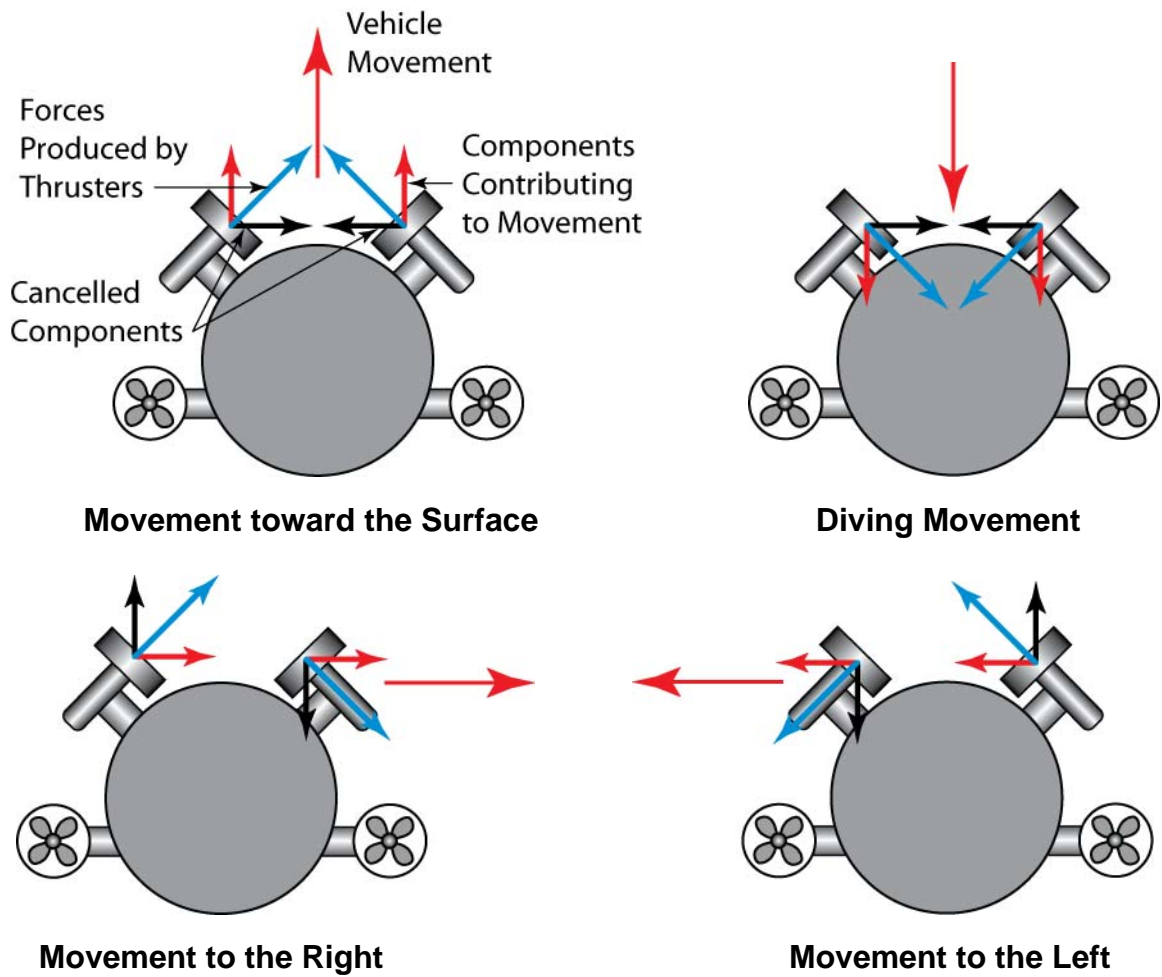

Figure 13: Four Vehicle Movements from the Vectored Thrusters Illustrated
- The vectored thruster arrangement generates many vehicle movements. The stern (rear) view in Figure 13 illustrates four motions when the two thrusters produce equal thrust.